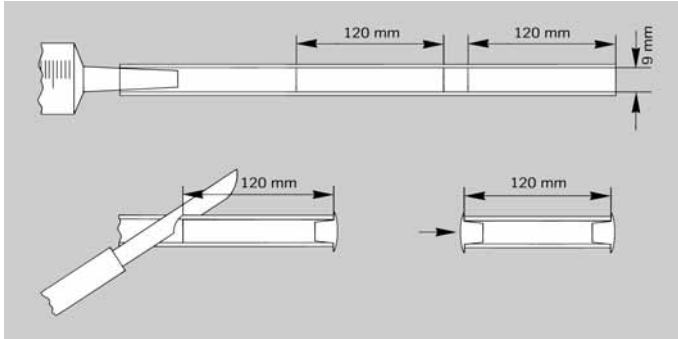

Fig. 9:
- Cut off the tube at the marked point and seal also the cut point (Fig. 9).